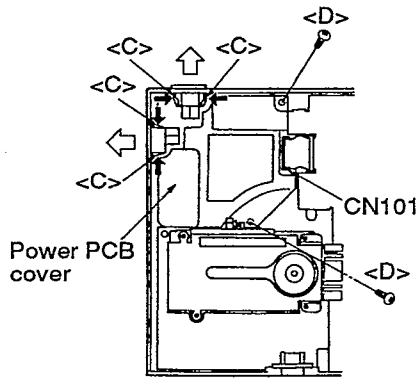

Figure 5
- (1) After removing the top case, remove the Power PCB cover.
- (2) Unlock the four hooks <C> and remove the AC inlet terminal and remove power switch as shown in figure 5.
- (3) Remove the two screws <D>.
- (4) Disconnect the connector (CN101) and remove the Power PCB.